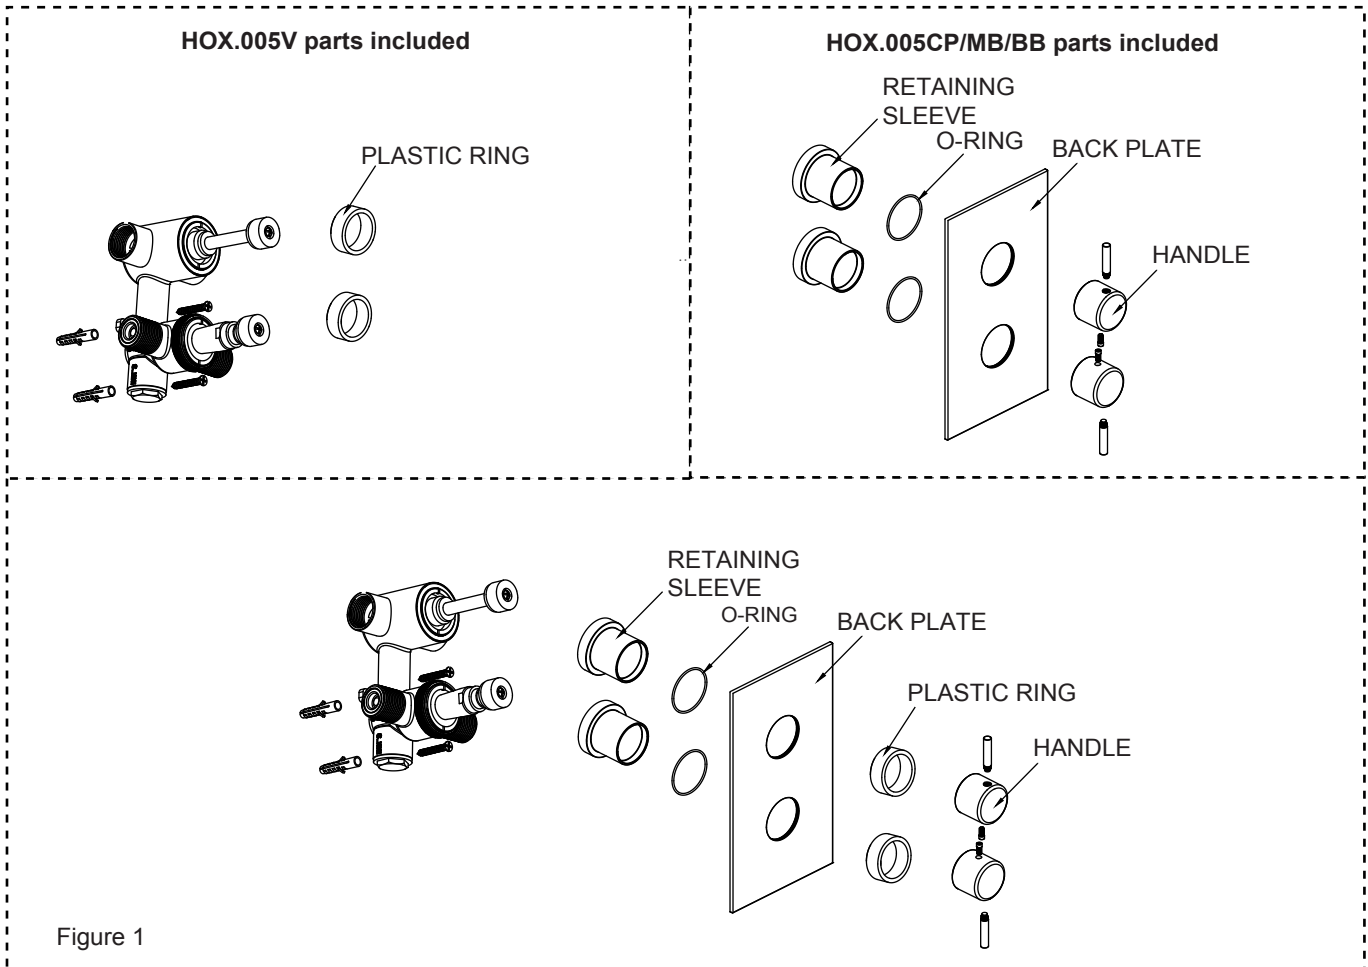

Figure 1
- Parts should be assembled in sequence illustrated by Figure 1.